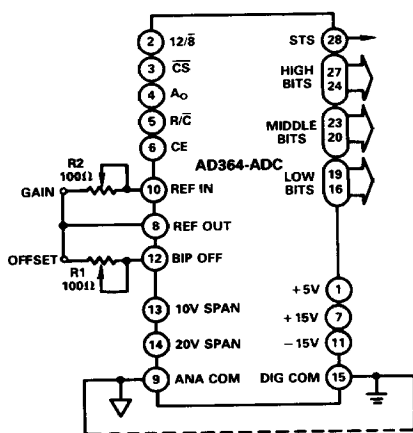

Figure 10b. Bipolar Gain & Offset
**Refer to Figure 10b for gain and offset adjustments.